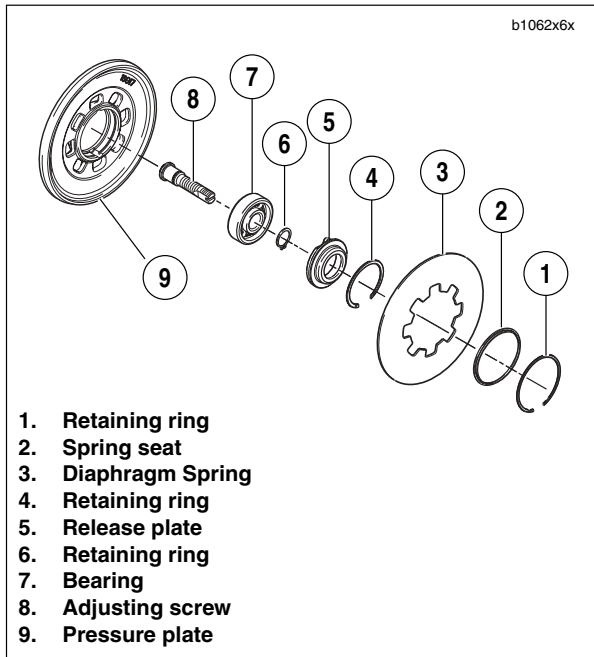

Figure 6-15. Adjusting Screw Assembly
1. See Figure 6-15. Remove adjusting screw assembly.
- a. Remove and discard small retaining ring (6).
- b. Separate the adjusting screw (8) from the bearing (7) and release plate (5).
- c. Remove bearing (7) from release plate (5).